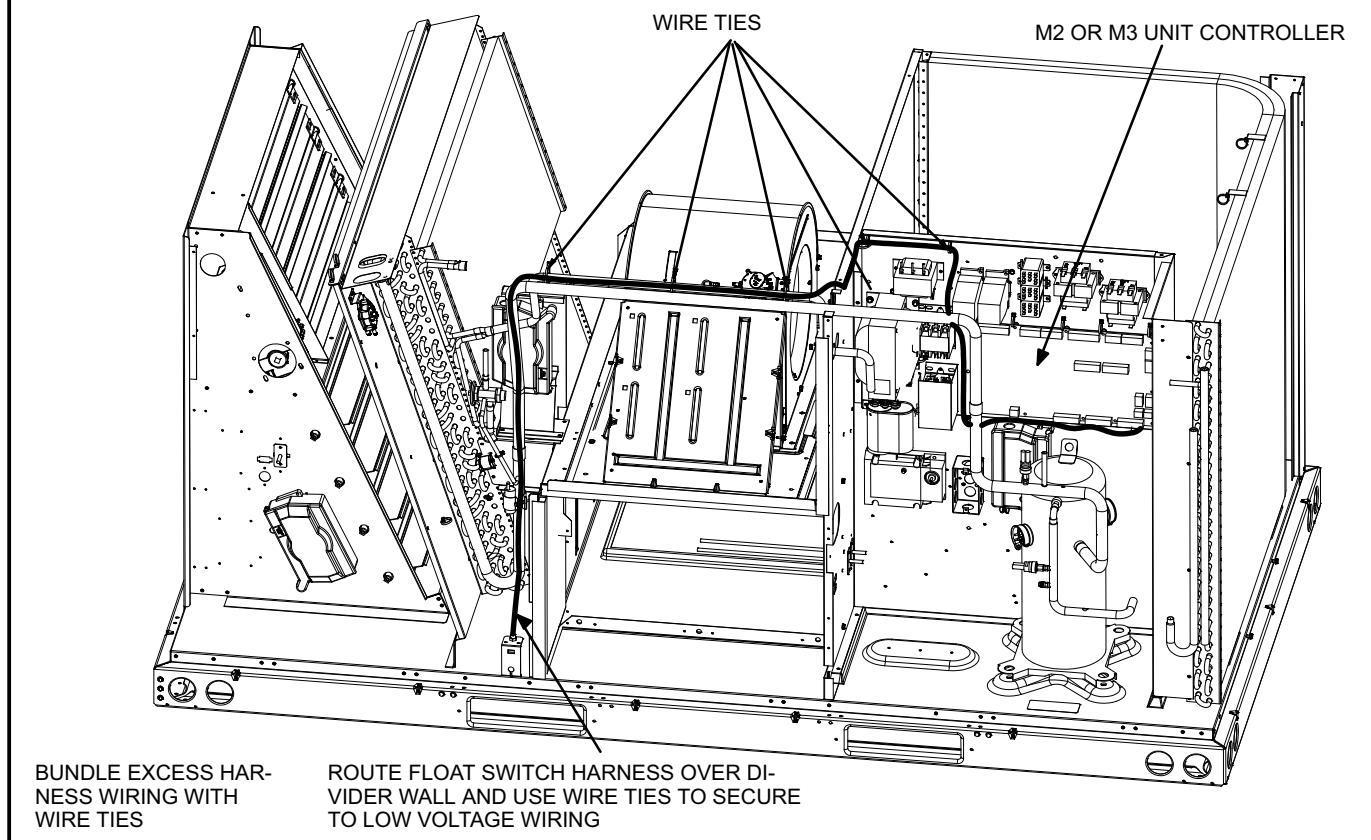
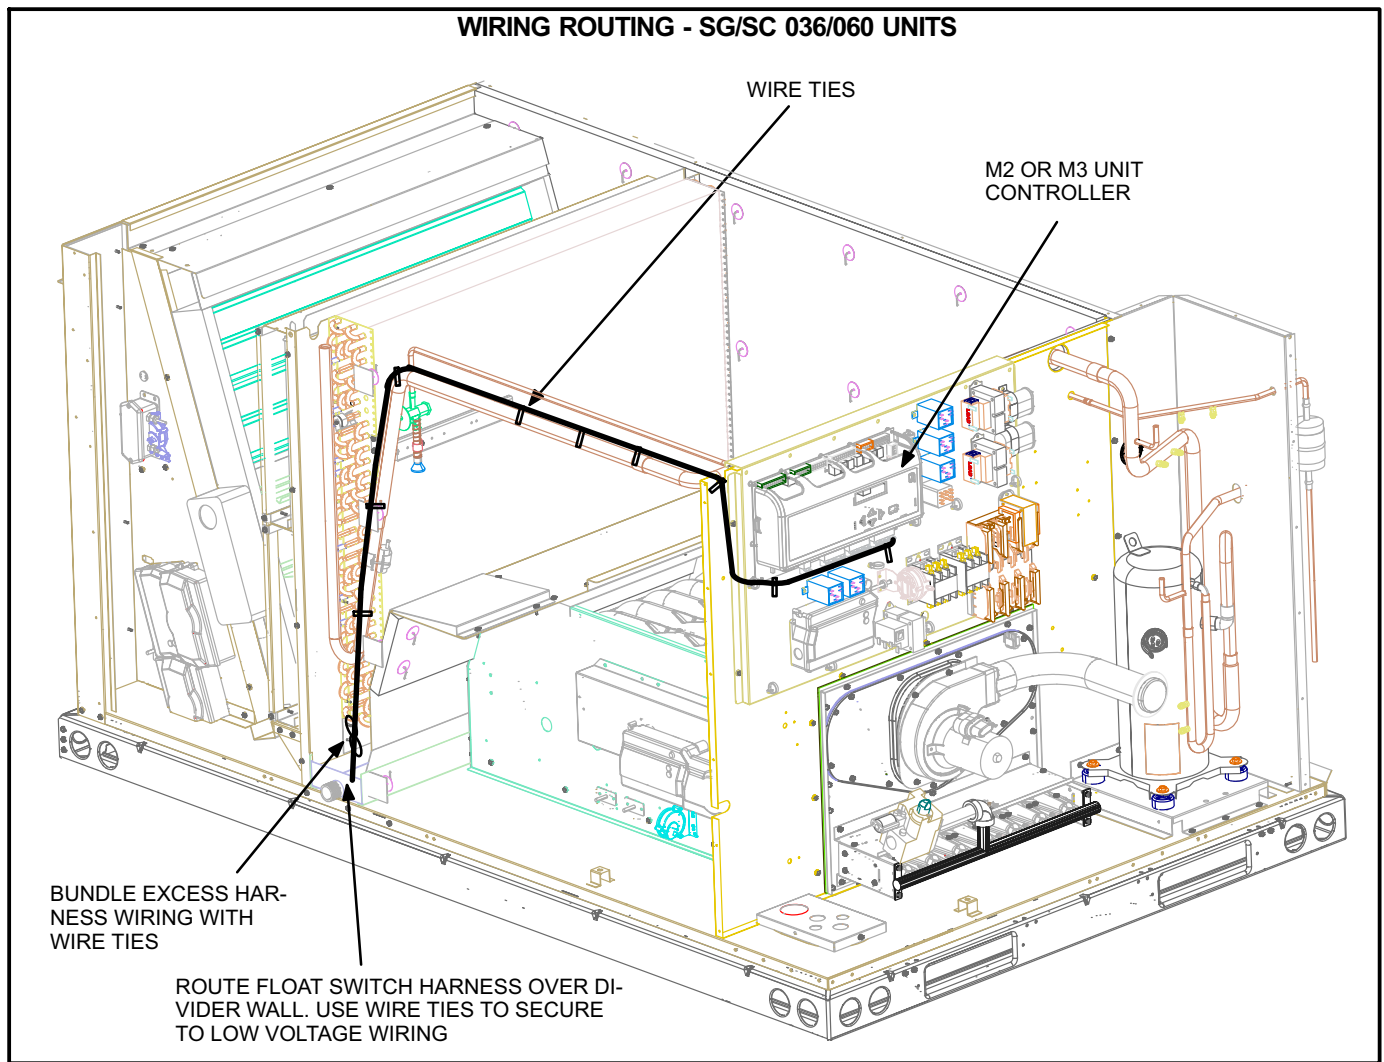
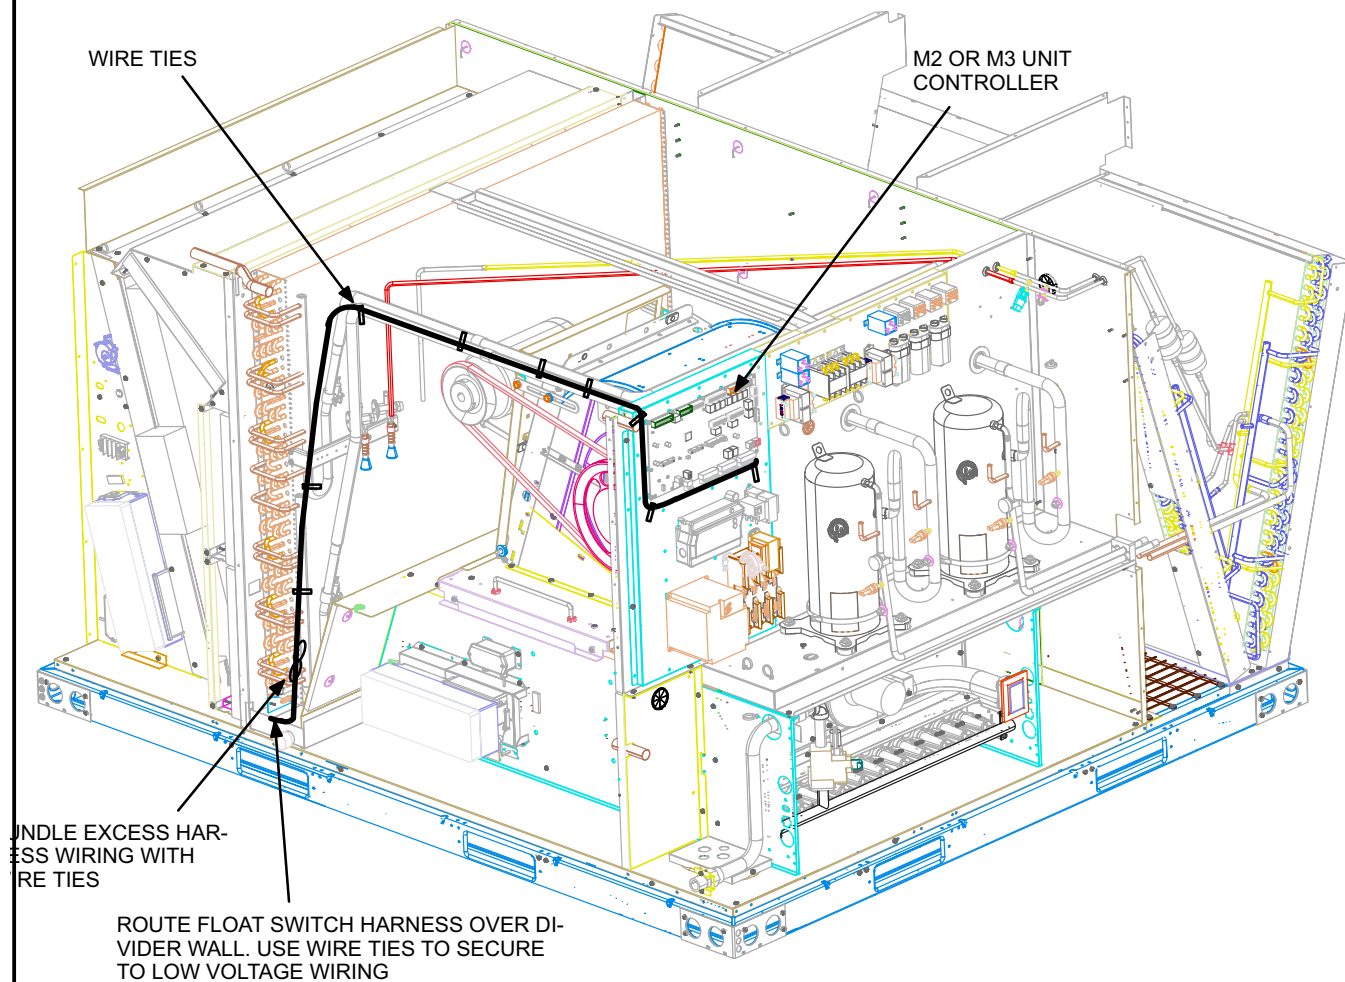

FIGURE 7
FIGURE 10
FIGURE 11
- 5- Route the other end of the harness to the float switch and secure with wire ties. See figure 7 for LGH/LCH036-072 units, figure 8 for LGH/LCH092-150 units, figure 9 for LGH/LCH156-360 & SG/SC 240/388, figure 10 for SG/SC 036/060 and figure 11 for SG/SC 120 units.